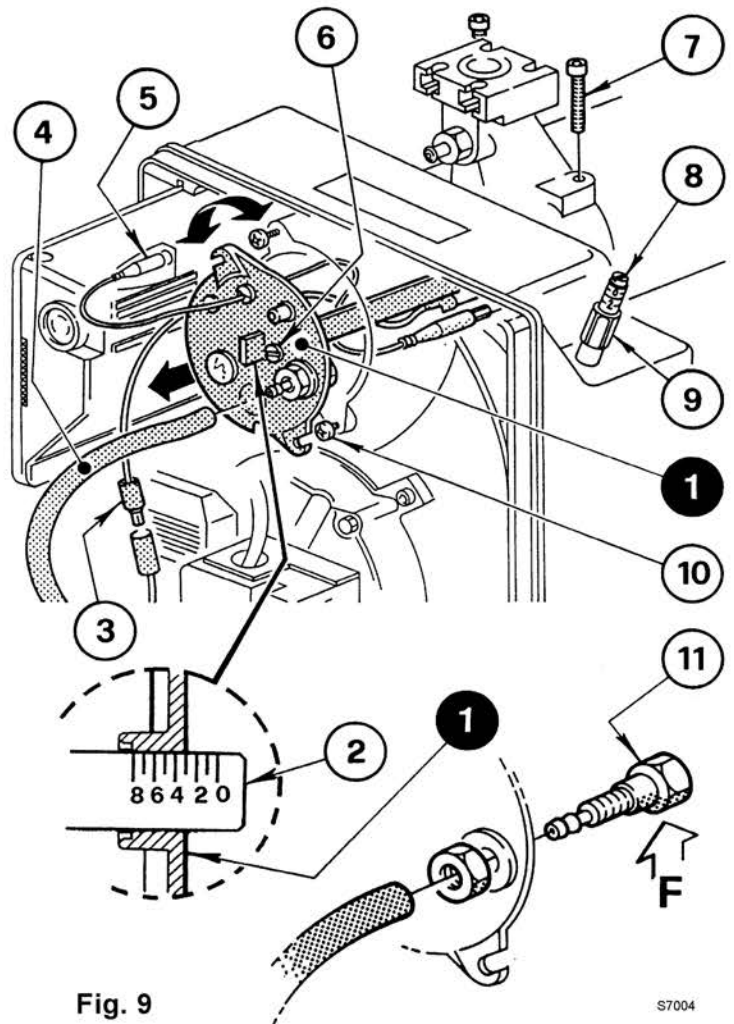

Fig. 9
It depends on the output of the burner and is carried out by rotating clockwise or counter-clockwise the setting screw (6) until the set-point marked on the regulating rod (2) is level with the outside plane of the head assembly (1) (see fig. 9).
In the sketch at page 7, fig. 9 the combustion head is set for an output of 110 kW, with reference to the BS3 burner type 913T1.
AIR DAMPER ADJUSTMENT (Fig. 9, page 7)
The pressure test point (pos. 11, fig. 9, page 7) is badly positioned.	Place it in the right position according to the instructions of this manual on page 7, chapter 4.1.